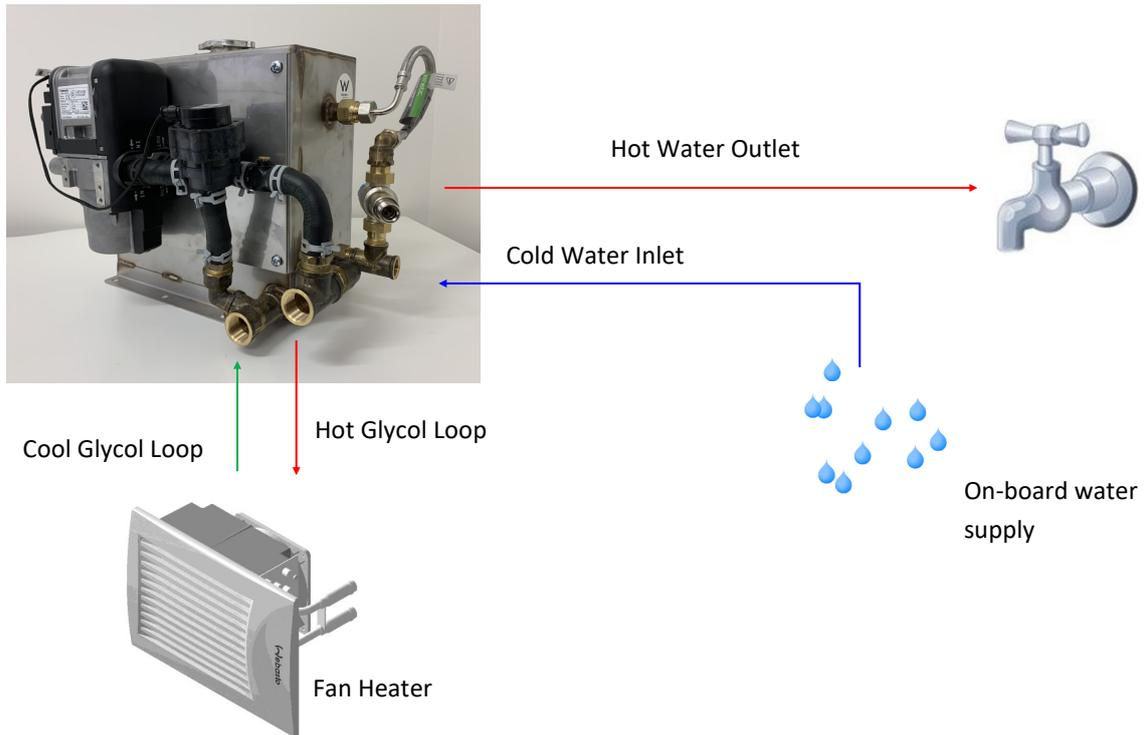
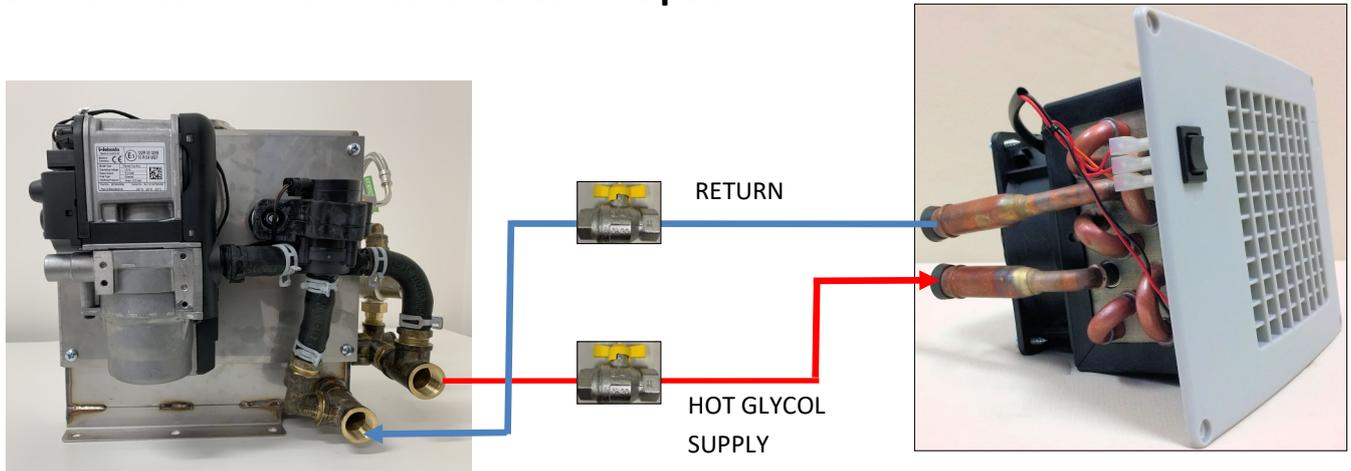

Fig 22 – Cold and hot water circuit. (Ensure that the maximum flow rate is 10L /min)
Fig 23 The kit is supplied with brass ball valves, during warmer weather the ball valves can be shut off to avoid any radiant heat passing in to the cabin.
7. Now open bleed valve (Fig. 22) by screwing the brass bleed screw (Fig. 23) anti-clockwise, NOTE do not remove the bleed screw completely.